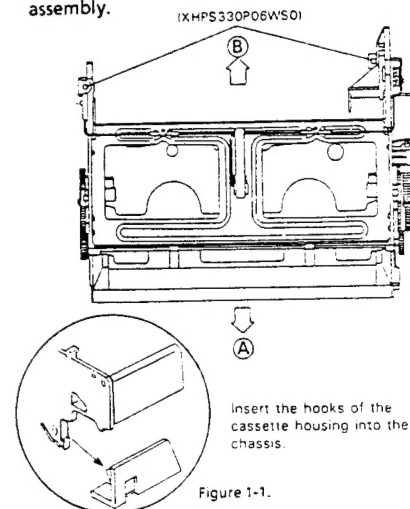

Figure 1-1.
4. Move the cassette housing control assembly (Fig. 1-1) in the direction of arrow ⇒ ③, and pull it out straight upward.